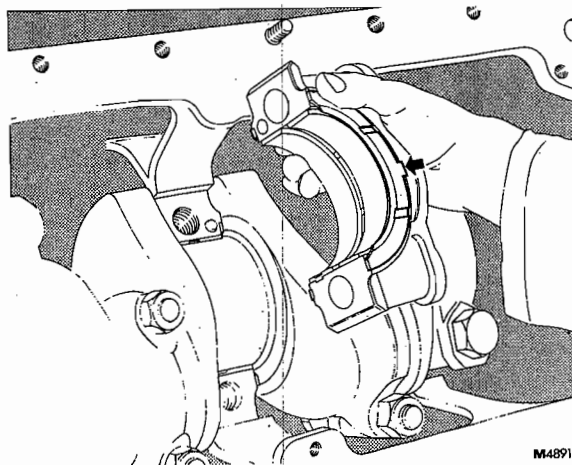

FIG. 3 FITTING CENTRE MAIN BEARING CAP
**Note:** The two lower thrust washer halves locate in machined grooves at either side of centre main bearing cap. The tongue location, shown arrowed in Fig. 3, prevents thrust washer rotation under running conditions.
4. Fit bearing caps ensuring that both caps, and, where applicable half shells, have been correctly identified and located. The centre main bearing cap is fitted with lower thrust washer halves held in position as shown in Fig. 3.